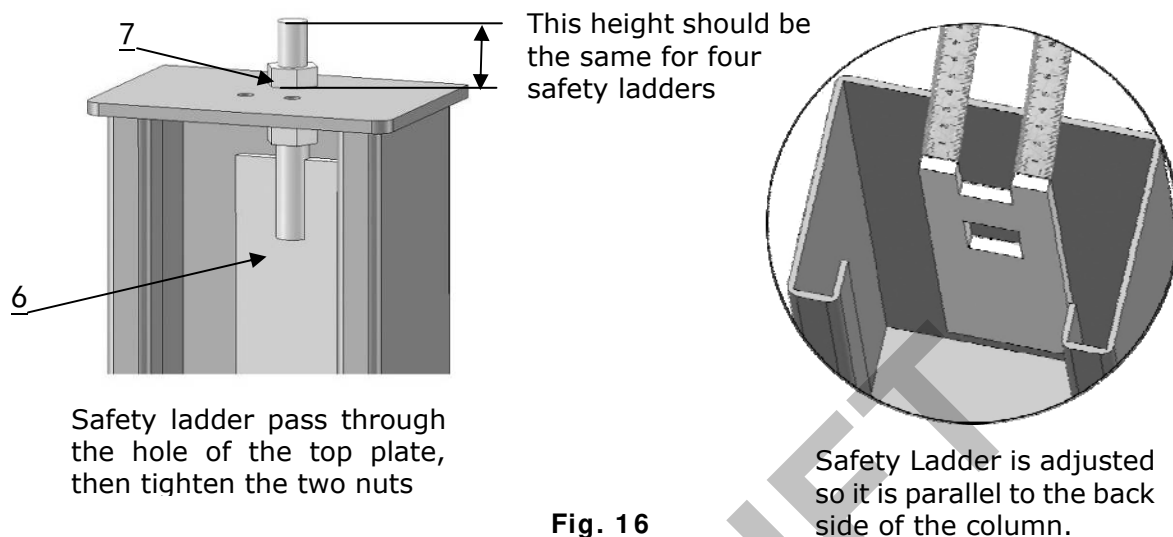

Fig. 16
2. Install Safety Ladders (See Fig. 16).